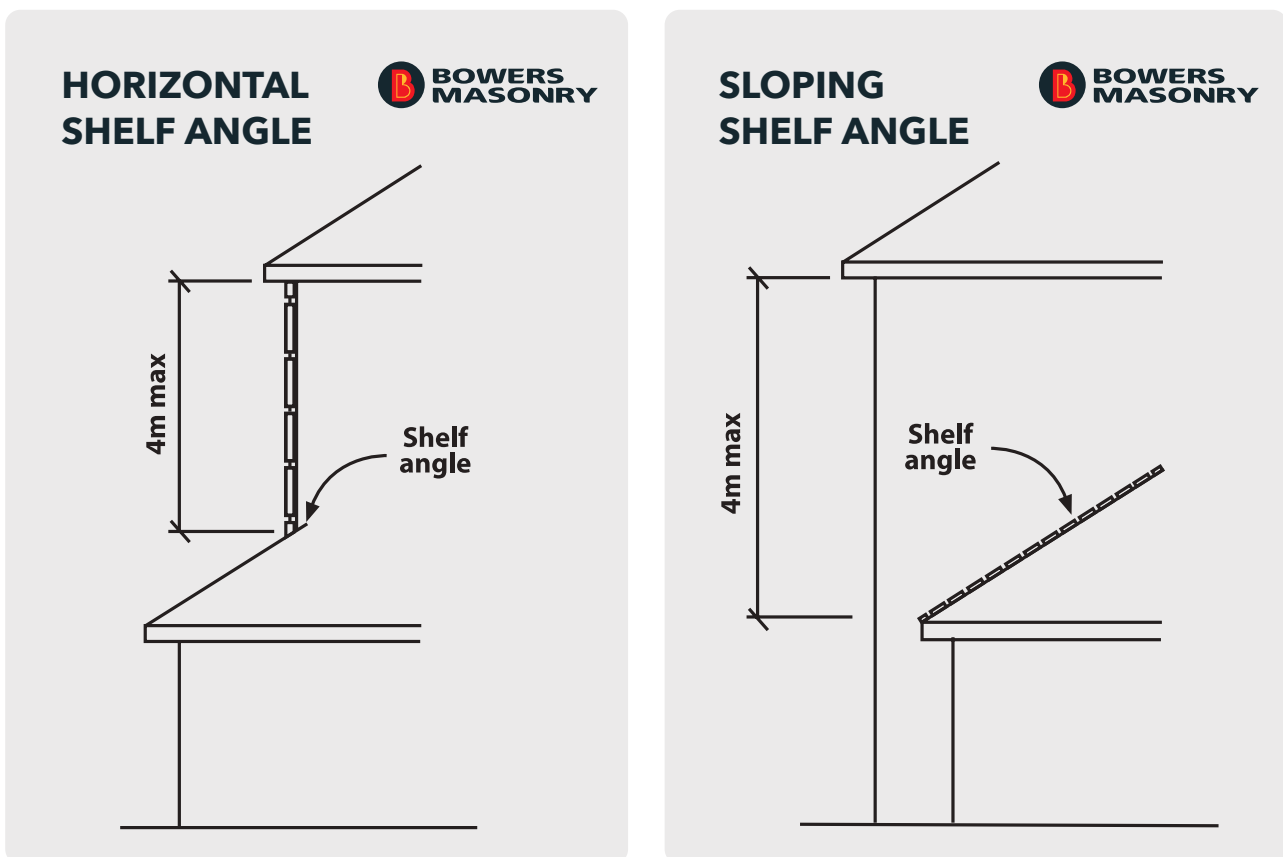

Figure 3 – Shelf Angles – diagram sourced from Brick & Paver Manufacturers association
- The maximum veneer panel height above a shelf angle over a skirt roof is to be 4m, measured as shown in figure 3 below: